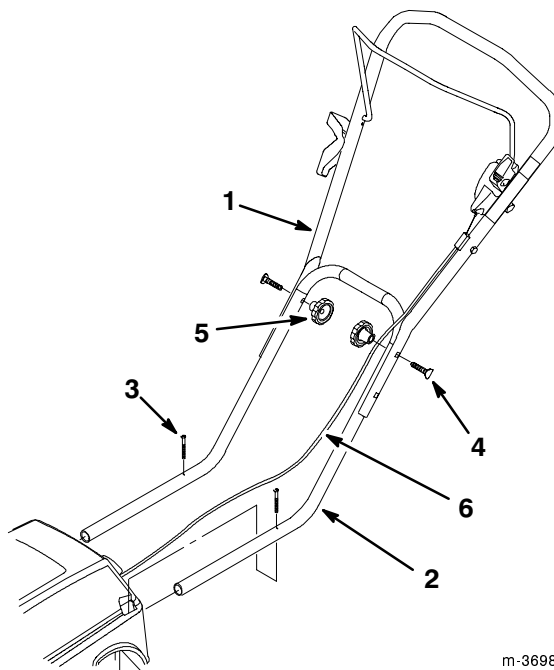

Figure 4
5. Position the ends of the upper handle on the outside of the lower handle (Fig. 4).
6. Select one set of the upper handle holes and align it with the lower handle holes (Fig. 4).
7. Secure the handles in place with bolts and knobs (Fig. 4).